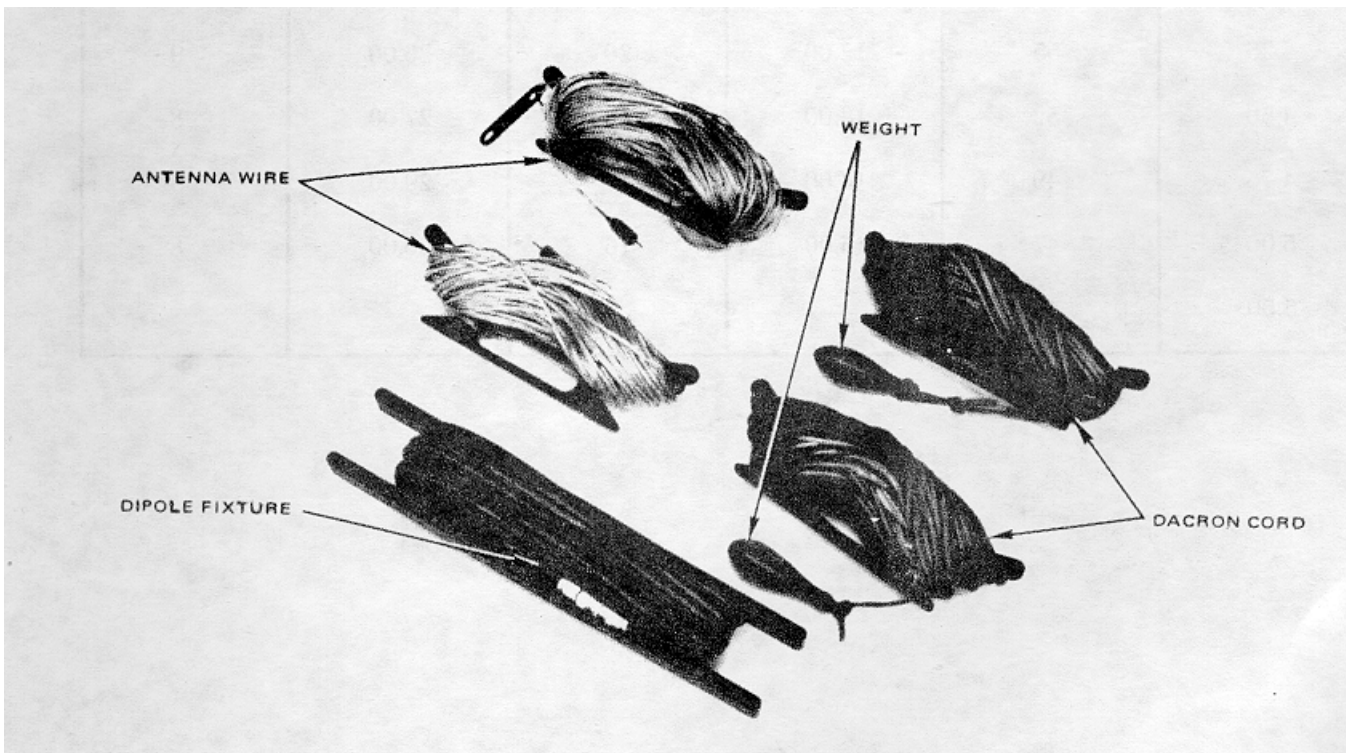

Figure A3-1. Dipole Antenna Kit
**A3-3.** The dipole antenna kit (fig A3-1) consists of two reels of antenna wire with the required BNC plugs, two reels of Dacron cord and weights, and a dipole lead-in fixture. The components of the wire antenna kit can be arranged in any of the following configurations: Slant wire (fig A3-2), two-support dipole (fig A3-3), sloping dipole (fig A3-4), or inverted-V dipole (fig A3-5). Figure A3-6 details the attachment of the antenna wires to the dipole fixture.
**A3-4. SLANT WIRE ANTENNA.** A slant wire antenna is much more effective than the whip antenna. The slant wire antenna requires the use of a dipole antenna (fig A3-1) and an antenna support. It is used when greater range is necessary than the whip antenna can provide, and when time or conditions do not allow the erection of a full horizontal dipole. The proper arrangement for a slant wire antenna is shown in figure A3-2. Erect a slant wire antenna as follows: